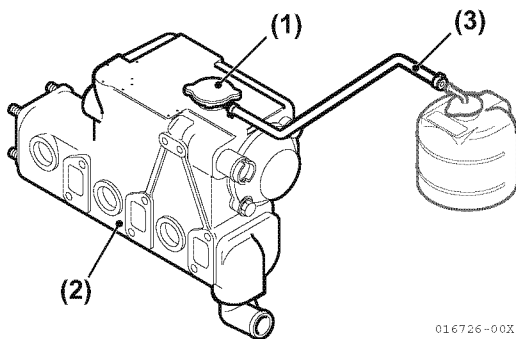

Figure 7-16
Remove coolant filler cap (Figure 7-16, (1)) from heat exchanger (Figure 7-16, (2)).
- Check the rubber hose (Figure 7-16, (3)) connecting the coolant recovery tank to the heat exchanger. Be sure the hose is securely connected and there is no damage.